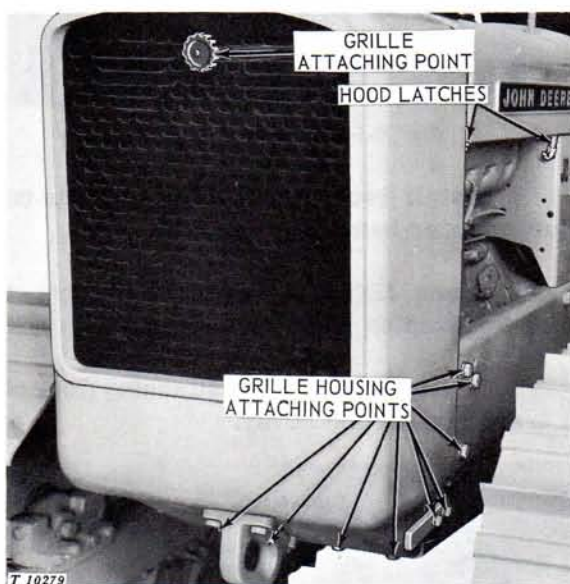

Fig. 20-5-1—Hood and Grille Housing Attaching Points
2. Remove grille by unscrewing knob (Fig. 20-5-1). Attach chain hoist to grille housing (Fig. 20-5-2).
Install grille housing over front end support with all baffling in place. Secure front end support to bottom plate and side frames with attaching cap screws and lock washers (Fig. 20-5-1).